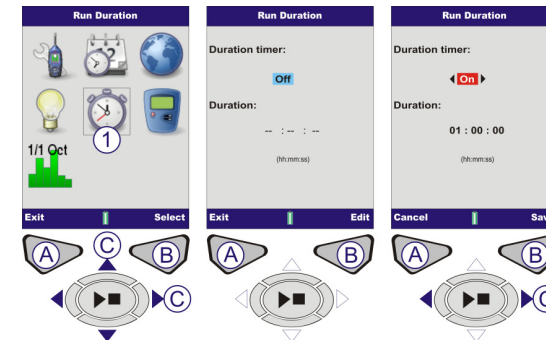

Figure 6 Run Duration
RUN DURATION (Refer to Figure 6 and 7)
All CEL-62X Series Models – The "Play" symbol is displayed in the top left hand corner of the screen. The "Pause" symbol is in the bottom left hand corner of the screen. The left hand Soft Key (A) is the PAUSE/RUN feature. When Pause is selected, 'PAUSED!' will be displayed on the screen. The incremental run number and duration are always in the top right hand corner of the screen. If the Run Duration Timer is set, a 'stopwatch' icon will appear next to the countdown timer. The Run Duration timer is enabled and disabled in SETTINGS (Refer to Figures 6 & 7). If the Run Duration is not set, the digital timer will count up until the run is stopped manually (by pressing D).